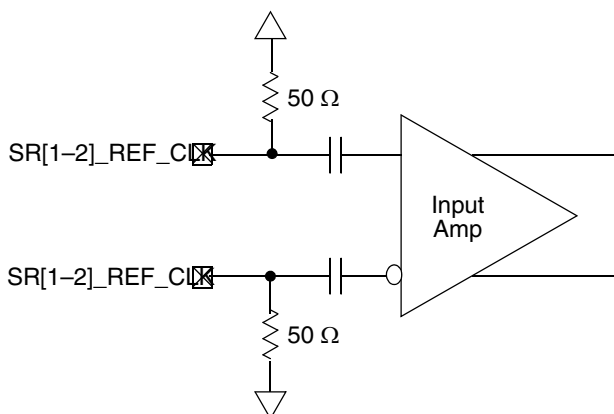

Figure 5. Receiver of SerDes Reference Clocks
The SerDes reference clock inputs are applied to an internal PLL whose output creates the clock used by the corresponding SerDes lanes. The SerDes reference clock inputs are $SR1_REF_CLK/SR1_REF_CLK$ or $SR2_REF_CLK/SR2_REF_CLK$. Figure 5 shows a receiver reference diagram of the SerDes reference clocks.
- The $SR[1-2]_{REF_CLK}$ and $\overline{SR[1-2]_{REF_CLK}}$ are internally AC-coupled differential inputs as shown in Figure 5. Each differential clock input ($SR[1-2]_{REF_CLK}$ or $\overline{SR[1-2]_{REF_CLK}}$) has on-chip 50- Ω termination to GND_{SX} followed by on-chip AC-coupling.